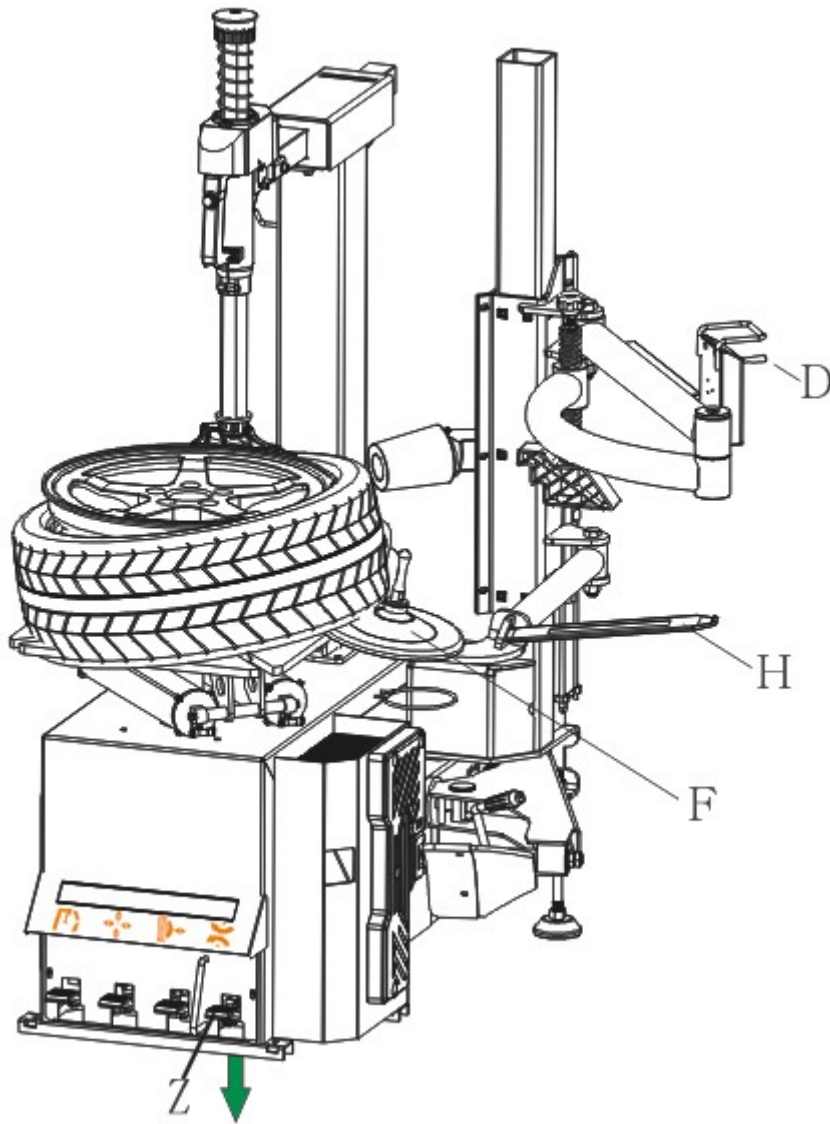

Fig. 12
- Turn the arm and move the tray F hold the tyre from bottom, do not touch the Rim (Fig. 12).
- Make sure the the tray hold the tyre firmly, use the crowbar H to assist if necessary, press the pedal Z and turn the working plate, raise the arm with switch D until the under tyre bead apart from the rim. (Fig. 12)